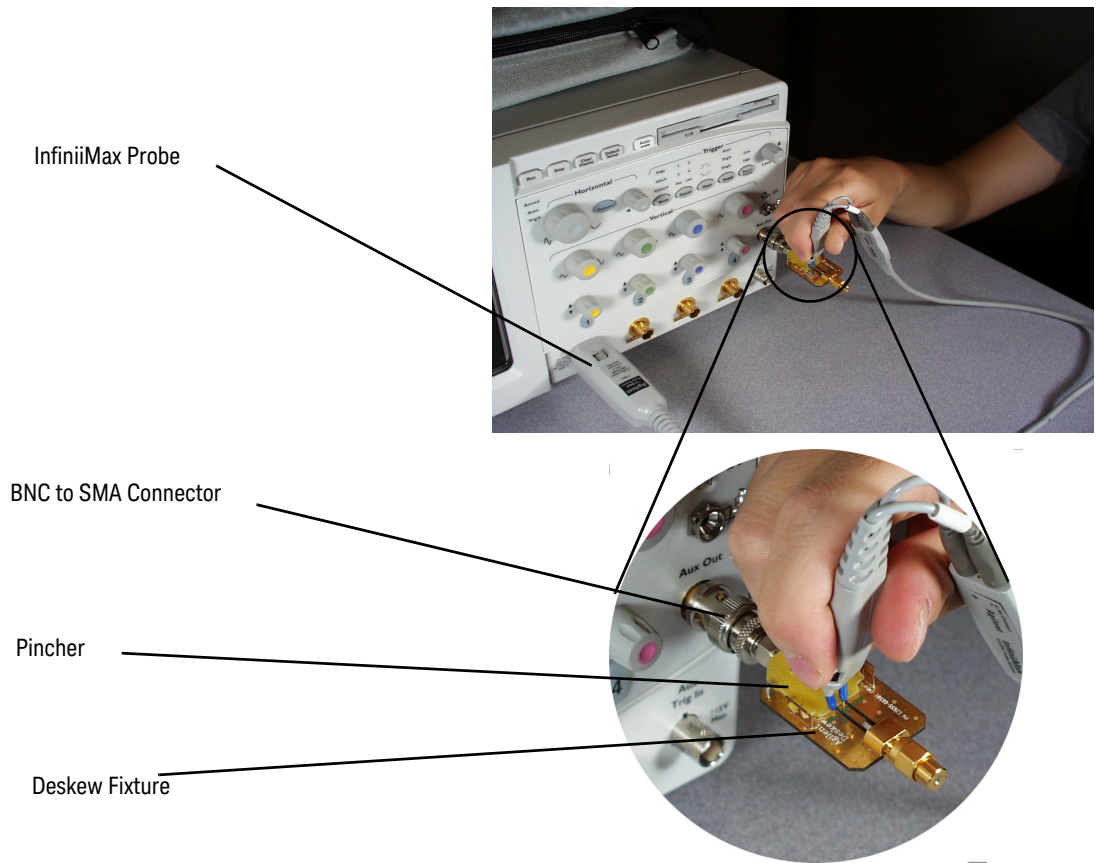

Figure 54 Placing the Probe on the Fixture
- 1 As shown in **Figure 54** on page 88, connect BNC (male) to SMA (male) adapter to the deskew fixture on the connector closest to the yellow pincher.